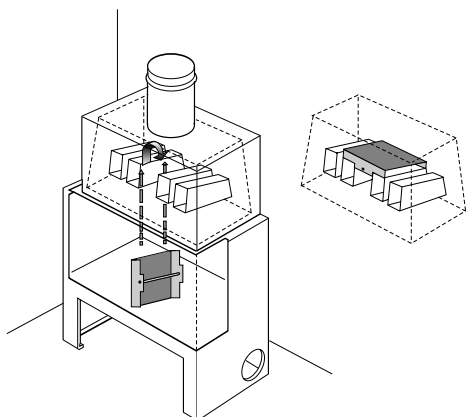

Fig. 5.9.2
5.9.2 Montaggio deflettore fumi (tranne L 45) (Fig. 5.9.2)
5.9.2 Smoke deflector installation (except for L 45) (Fig. 5.9.2)
5.9.2 MONTAGE DES RAUCHLEITBLECHES (AUSSER L 45) (ABB. 5.9.2)**D**